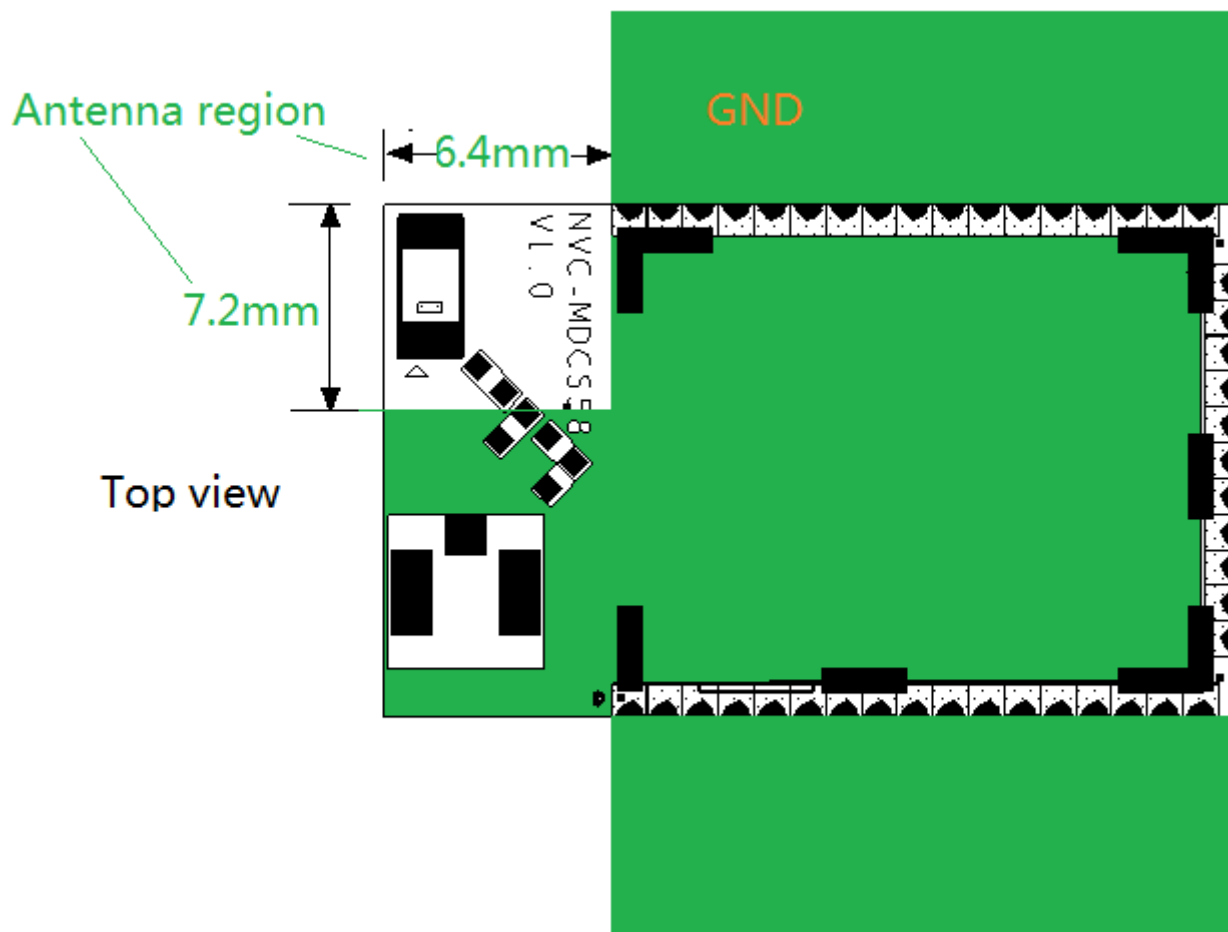

Figure 8 : Placement the module and the ground of main PCB Board
2. There should also have a good ground panel on the main PCB board on which the module is mounted. As shown in Figure 8.